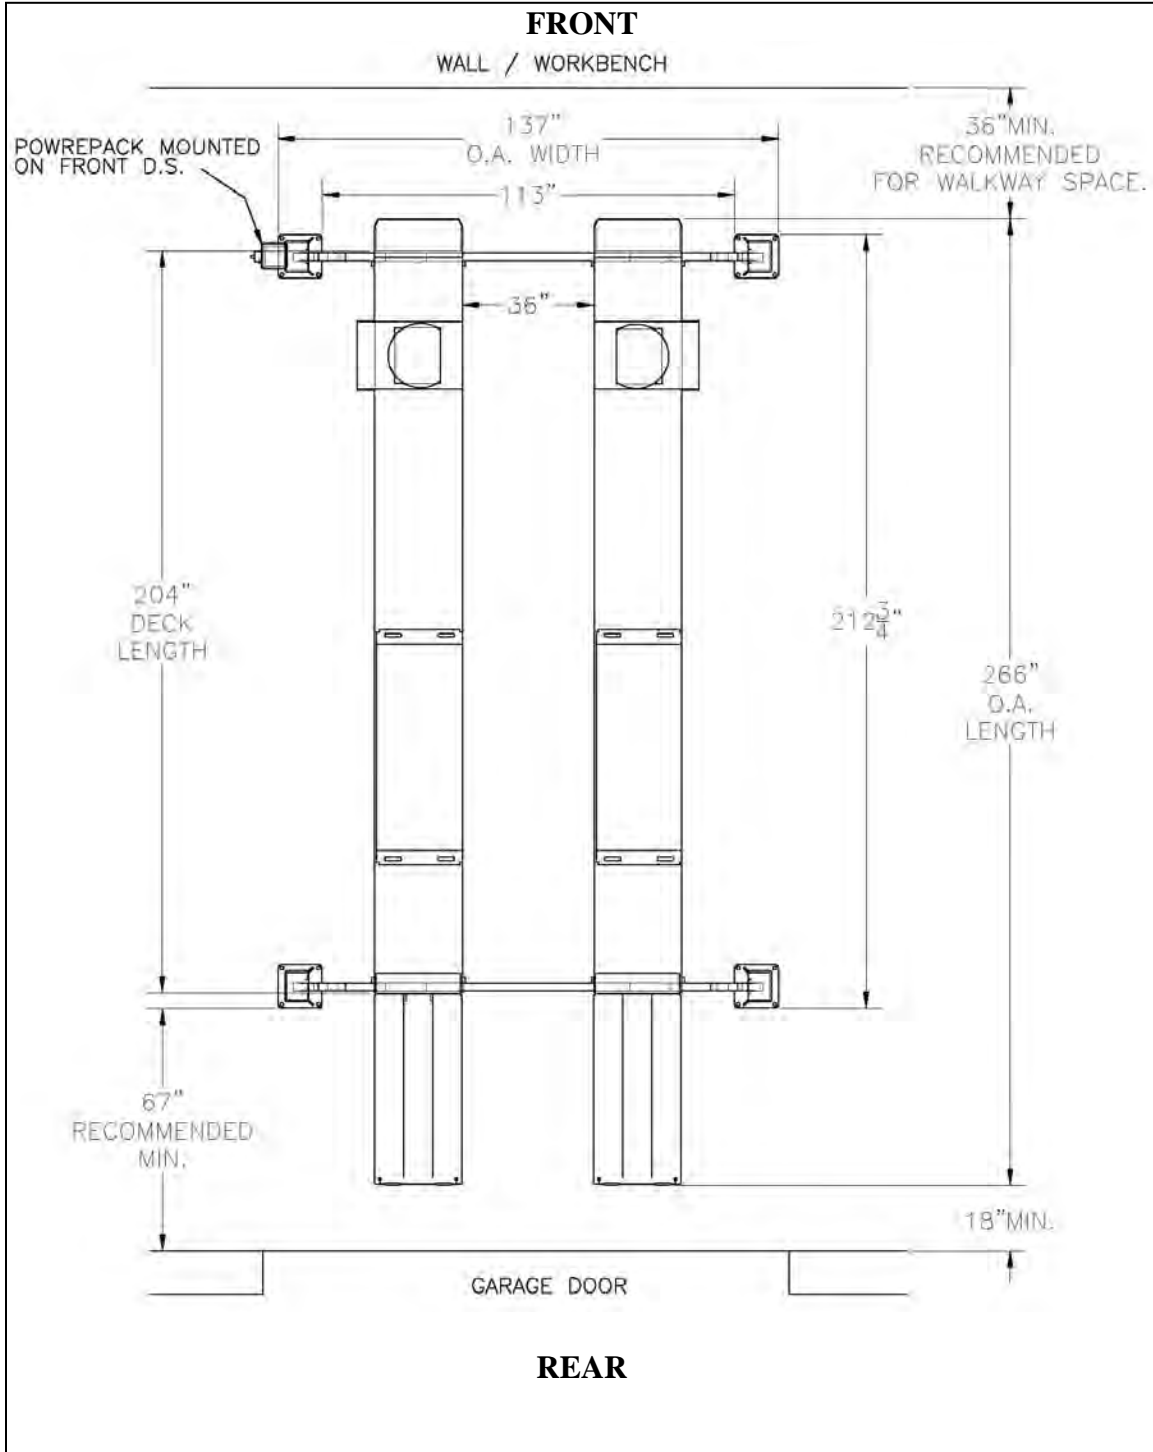
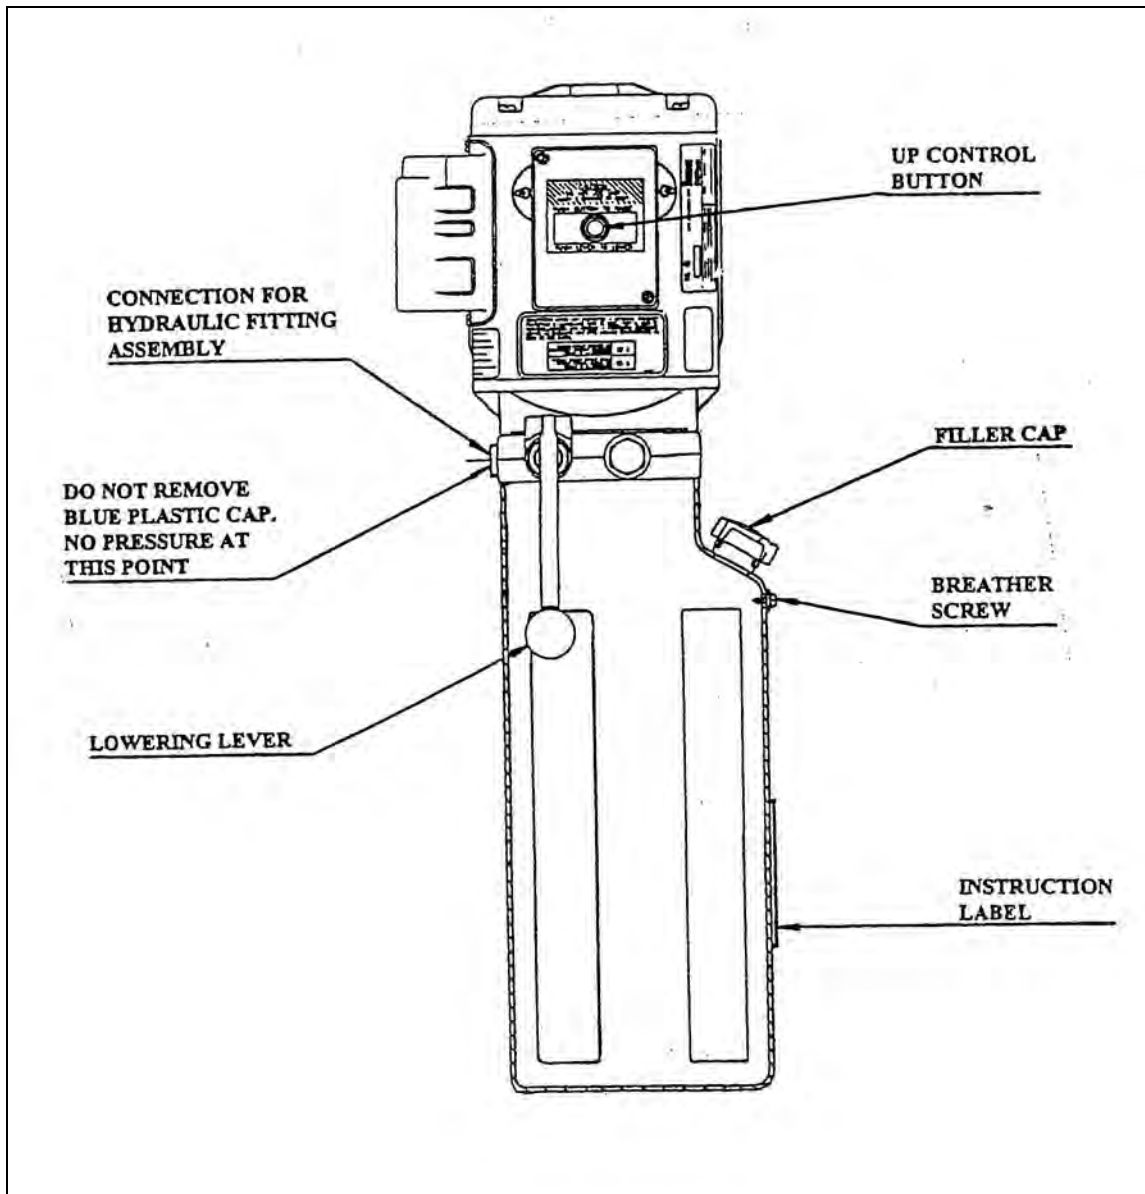

Figure 1. Plan view
Figure 6. Power pack details
- An outline matching the dimensions listed below will need to be marked on the floor. Refer to Figure 1 General Lift Specifications for overall lift dimensions.
Figure 1. Make a chalk line parallel to the doorway at least 279³/₄" in from the doorway. This will be the furthest front face of the front post baseplate location. Call this line "A". Determine the center of the doorway and bay. Make a centerline to intersect with line "A". Measure from the centerline along line "A" 60¹/₂" in both directions. This will be the location of the inside face and front face of the front posts. Measure back from this line "A" 212³/₄". Make a chalk line parallel to line "A". Call this line "B". This will be the location for the back face of the rear post baseplates. Measure from the centerline along line "B" 60¹/₂" in both directions. This will be the location of the inside face and back face of the rear posts. Position work stands inside of line "A" and "B" of outline, to support the front and rear of each deck assembly.
- Stand posts into position according to Figure 1
- Install the threaded stud end of the cables through the top of the post. Use a 7/8" flat washer, and two (2) 7/8"-14 UNF hex nuts with cable spacers as required, to compensate for uneven floors.
- Bolt the power pack to the mounting bracket on the front face of the left front post using four (4) 5/16"-18UNC × 1"LG. hex head bolts and four 5/16" lockwashers. Refer to Figure 6.